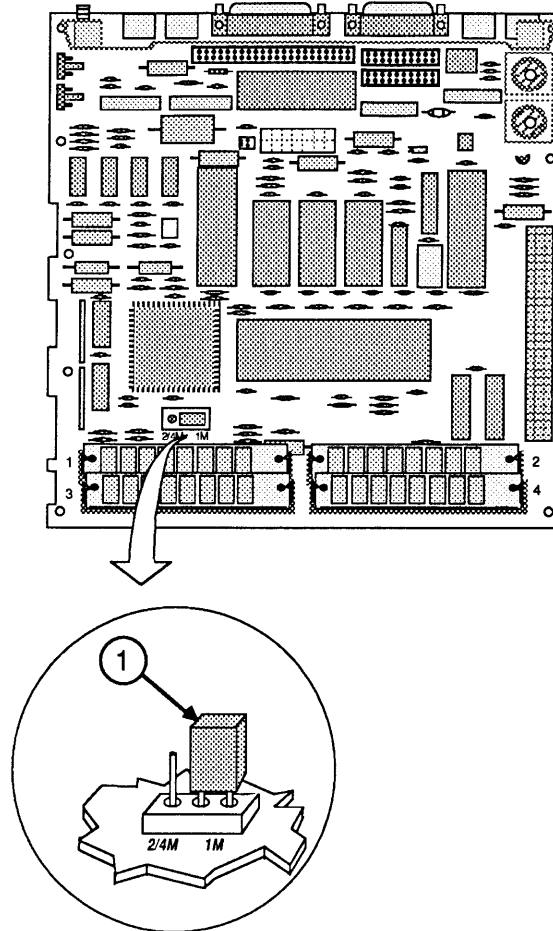

FIGURE 9
2. **Jumper-type logic board**—The other version of the Macintosh SE logic board has a three-pin jumper block at the area on the logic board identified by Figure 9, #1. The jumper block is labelled "2/4M 1M" on the logic board. Refer to "Jumper-Type Logic Boards" for more information on this version of the Macintosh SE logic board.